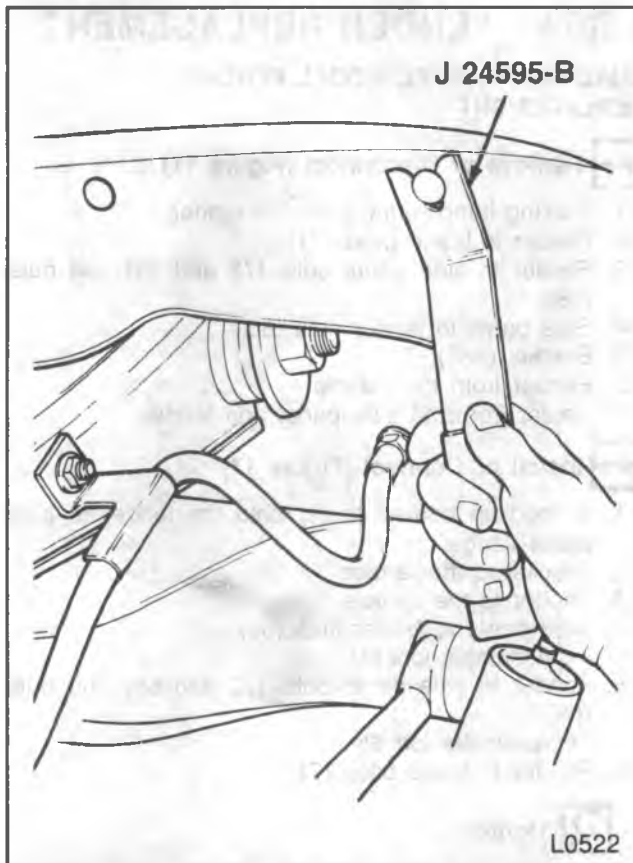

Figure 10—Removing Shield Retainers
8. Shield to underbody retainers using J 24595-B (figure 10).
11. Lower door pillar to fender bolt (45) and shim(s) (46).
12. Fender to cowl bolt (47) and shim(s)(46).
13. Upper fender to door pillar bolt (48) and shim(s)(46).